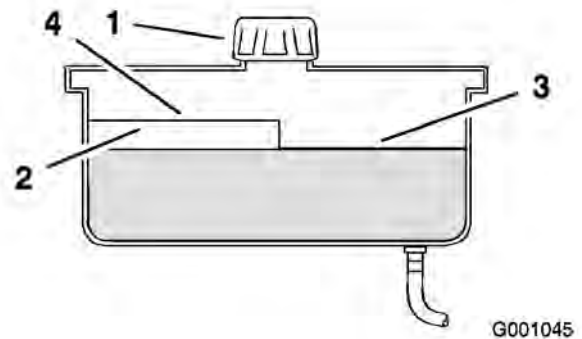

Figure 64
4. Clean area around cap and filler neck of hydraulic tank (Figure 64).
5. Remove cap from filler neck. Look inside to check the fluid level in the reservoir. (Figure 64).
Note: The fluid level should be to the top of the hot level of the baffle, when the fluid is warm (Figure 64).